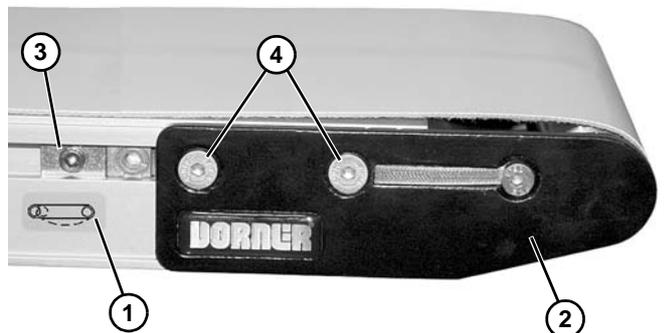

Figure 29
4. On tension end of the conveyor, identified with  a label (Figure 29, item 1), push in headplate assembly (Figure 29, item 2):
- a. On both sides of conveyor, loosen and move cam tracking assemblies (Figure 29, item 3) (if equipped) away from headplates.
- b. Loosen fastening screws (Figure 29, item 4) and push headplate assembly inward.